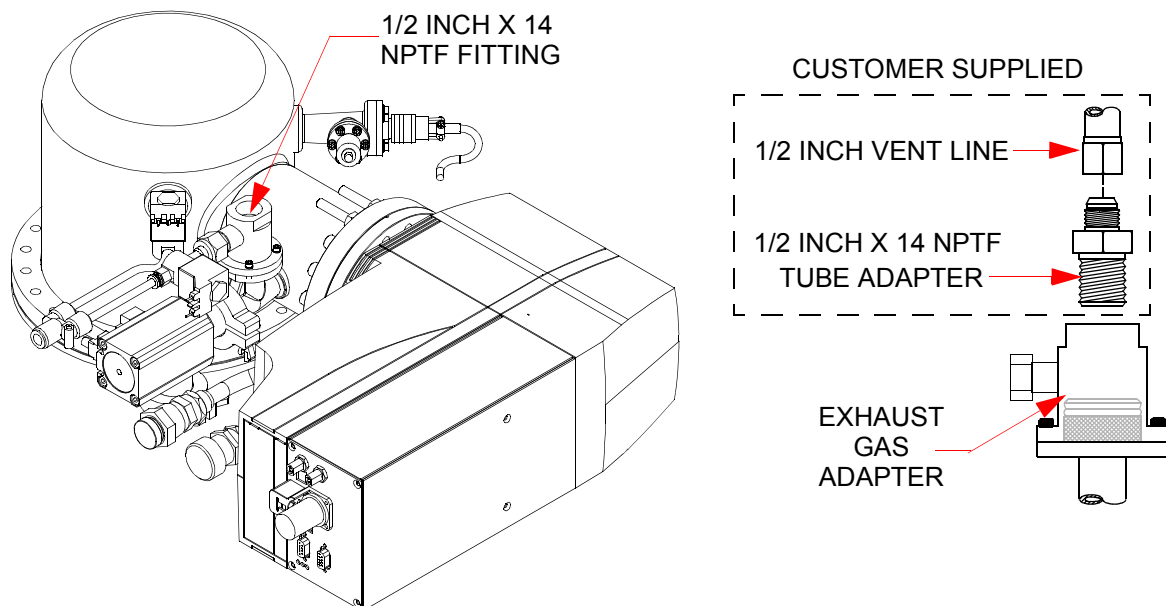

Figure 2-4: Pressure Relief Valve Exhaust Connections
1. Install a customer supplied 1/2 inch x 14 NPTF Tube Adapter in the exhaust gas adapter as shown in Figure 2-4 .
2. Connect a customer supplied 1/2 inch exhaust system vent line to the Tube Adapter fitting as shown in Figure 2-4 .